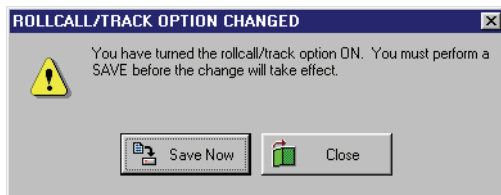

Figure 2-23: Rollcall/Track Option Changed Warning - ON
3. To enable rollcall/track, click in the check box beside the Rollcall/Track ON field. A check mark appears in the check box and the following window appears (see Figure 2-23).